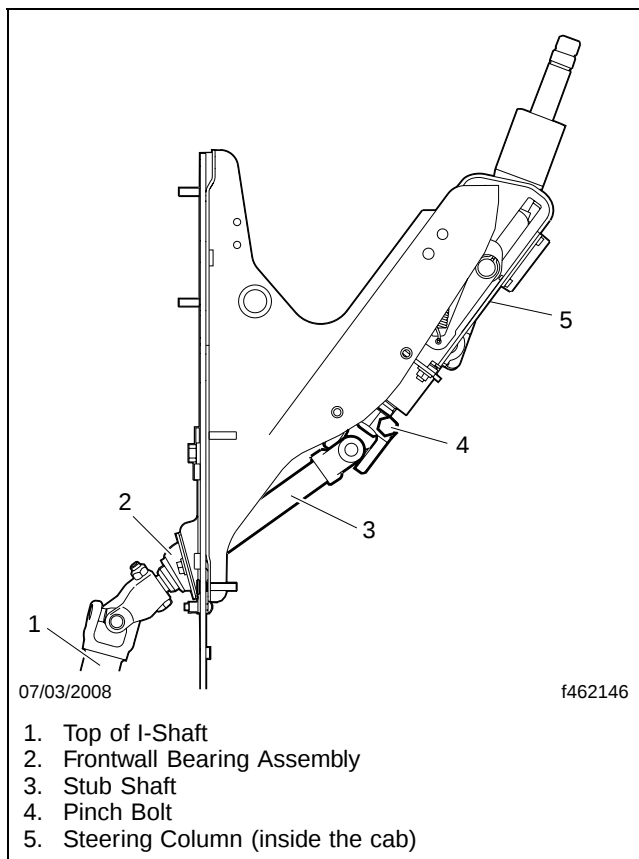

Fig. 5, Stub Shaft Installation, Side View
30. Install the new stub-shaft, and fit a new pinch bolt and nut in the U-joint; as shown in **Fig. 5**. Tighten the nut 30 to 35 lbf-ft (41 to 47 N·m).